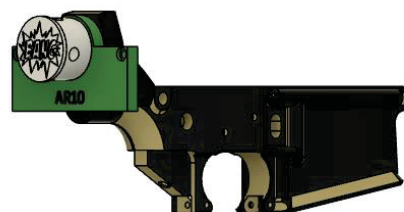

Figure 2-3
3. Thread the buffer cap through the rear block and into the lower receiver's buffer tower. Do not tighten completely at this time. Refer to Figure 2-3.